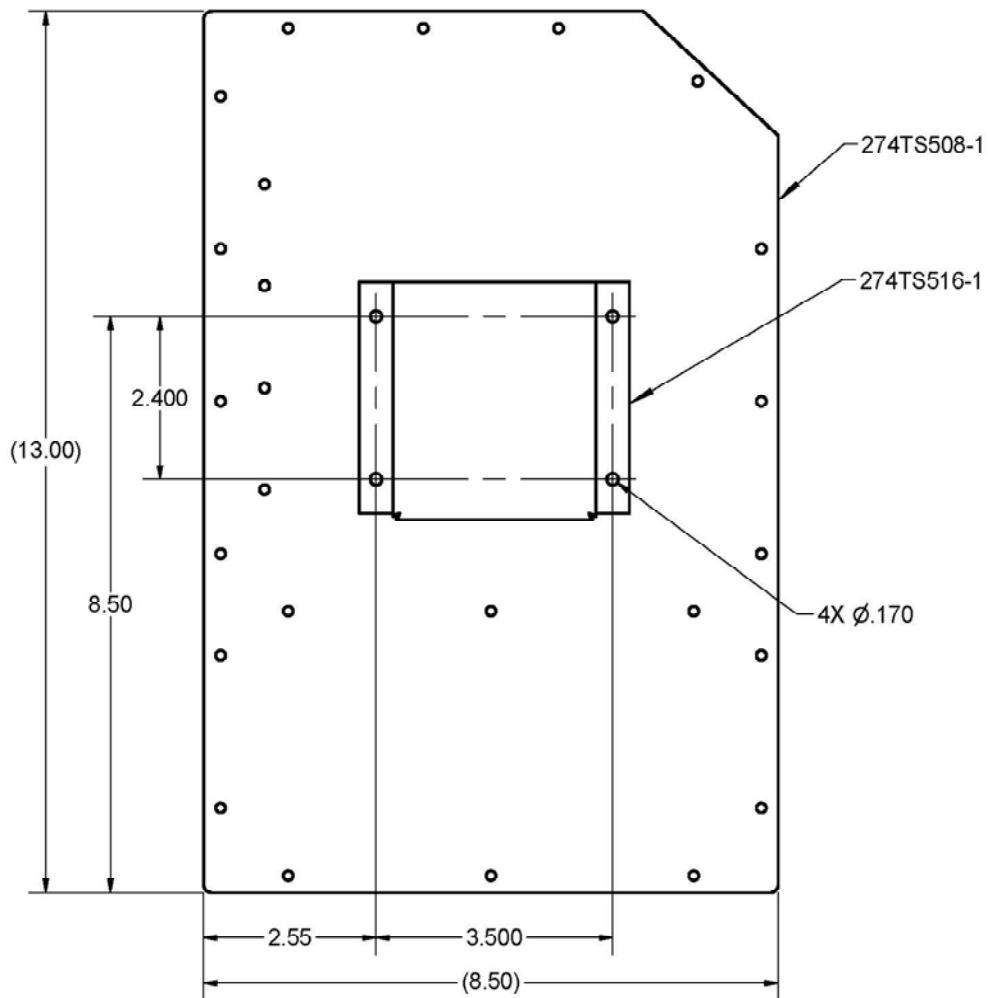
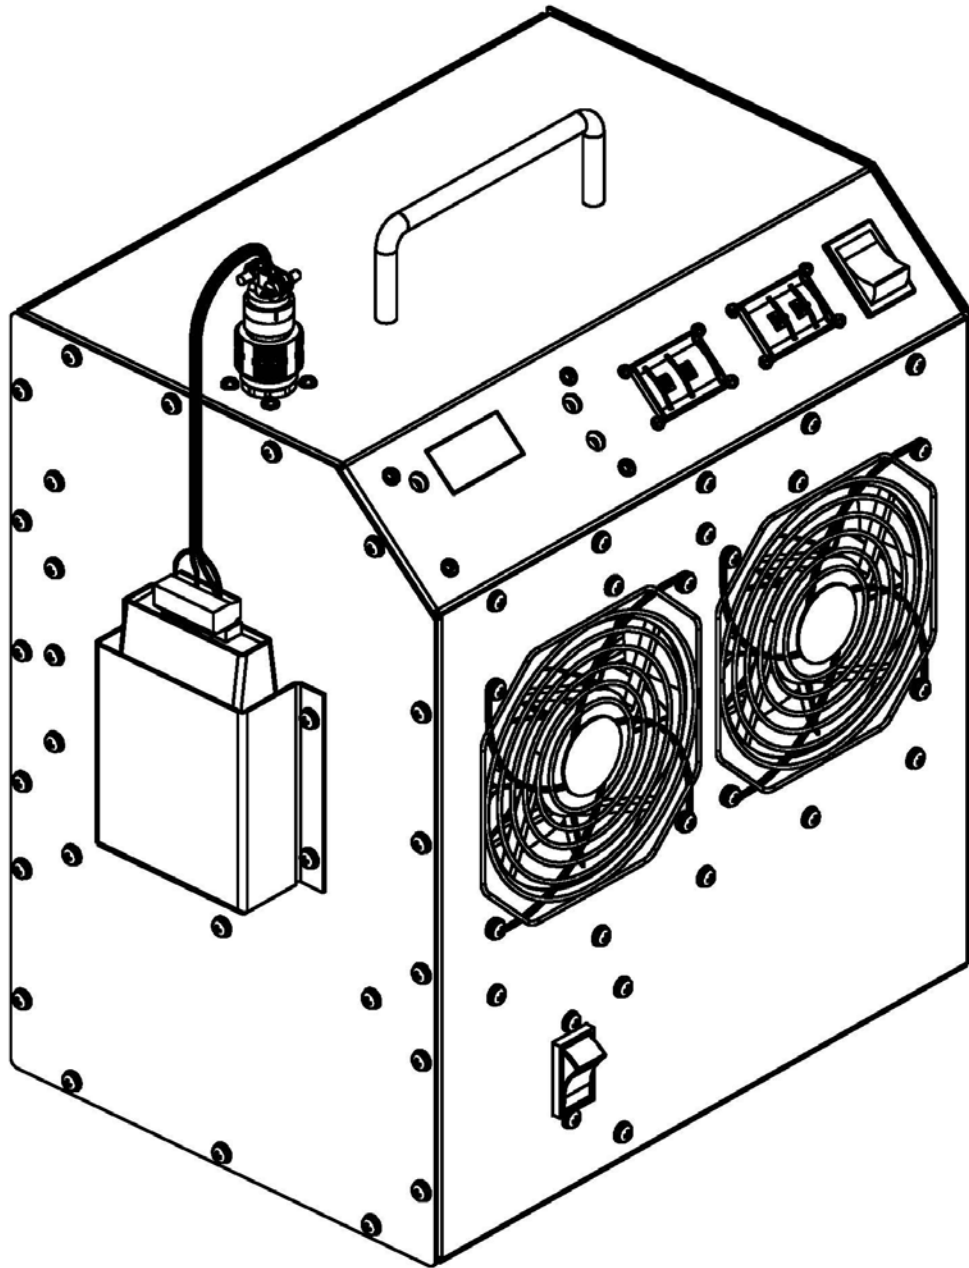

Figure 1
Figure 2
15. Remove the nut and washer securing the wires to the positive (+) terminal of TB1 (380).
17. Remove the nut and washer securing the wires to the negative (-) terminal of TB1 (380).
19. Re-install the handle (115) removed in Step 2 on the top cover (55).
21. Using the 274TS516-1 logger holder as a template, locate the mounting bracket on the left side panel (15) approximately as shown in Figure 1. Drill 4 holes in the left side panel (15) and mount the logger holder using 4 screws (500540), washers (500501, 500411) and nuts (500522).
22. Re-install the left side panel (15) removed in Step 1. Install all screws and washers before tightening.
23. Install the new top panel (55). Install all screws and washers before tightening.
26. After the modification is completed, the OBD will appear as in Figure 2.